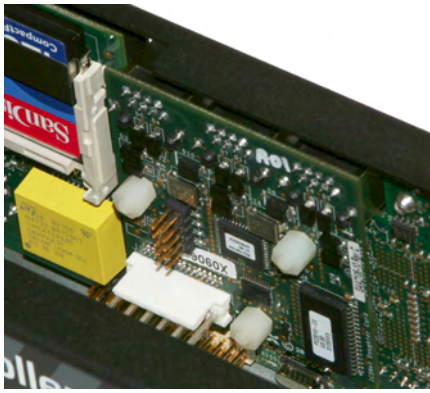

FIG. 5 ICSNET card seated against motherboard
4. Thread on the other 3 nylon spacers until they are seated firmly against the NXA-ICSNET card. Securely tighten; however, do not over tighten. (FIG. 5)